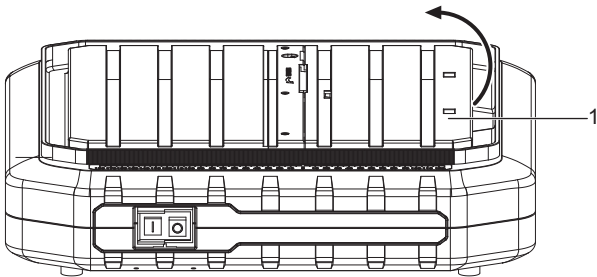

Fig. 2
- > Raise the 45° Vertical fence (1) approx. 45° and remove. (Refet to Fig. 2)